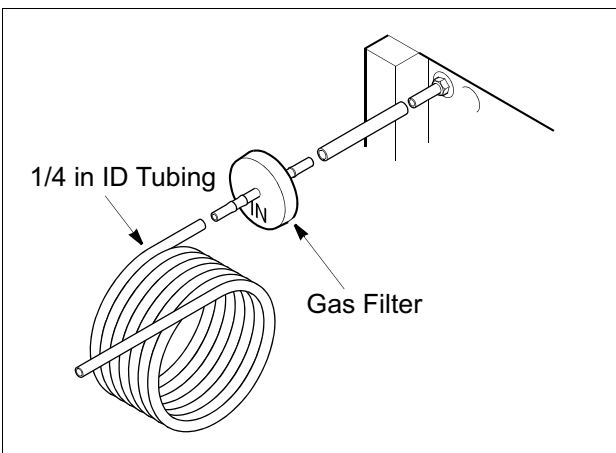

Figure 1-2. CO₂ Gas Connections
4. Connect the opposite end of the tubing to a high-quality input gas filter (0.3 micron supplied). Note that the side of the filter marked “IN” faces the incoming gas connection, not the back of the incubator (refer to Figure 1-2).